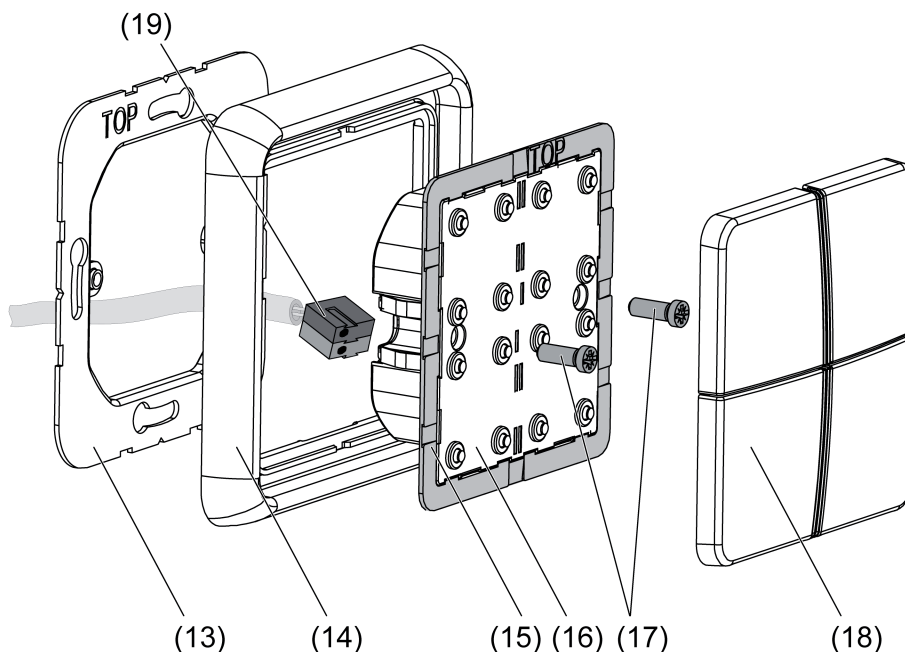

Figure 5: Assembling the push-button sensor basic module
- Snap adapter frame (15) in the right orientation from the front onto the push-button sensor module (16) (figure 5). Note marking **TOP**.